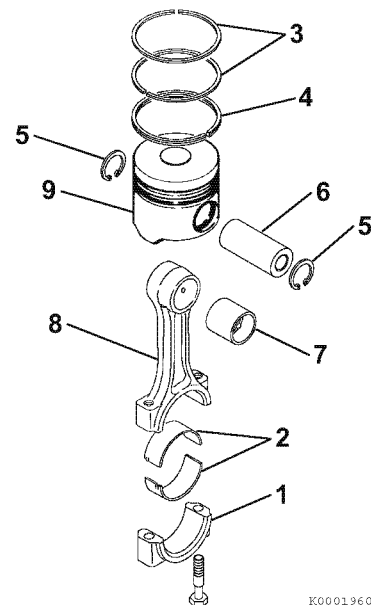

Figure 6-130
2. If removed, install a new wrist pin bushing (7, Figure 6-130) using a press and the appropriate service tool. Be sure to align the oil holes.
3. Reinstall one circlip (5, **Figure 6-130**) into the piston. Ensure the circlip is securely seated in the groove.